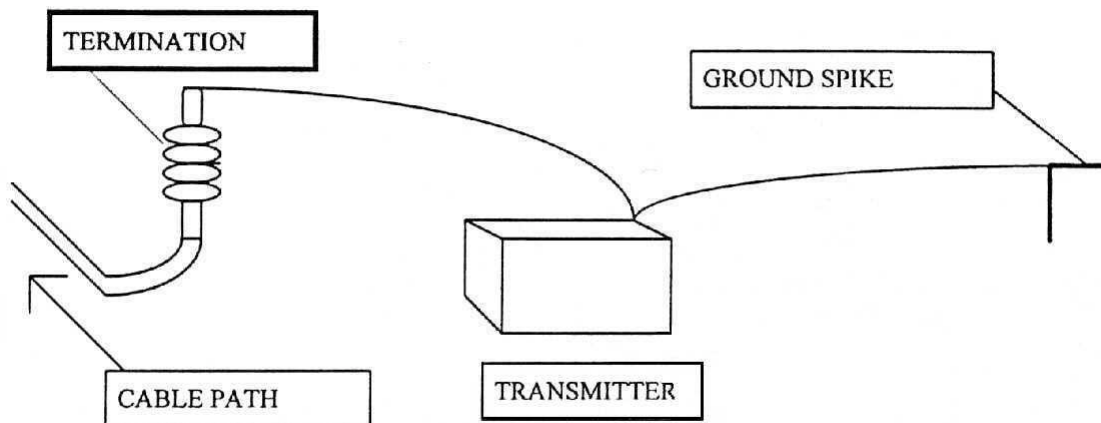

Figure 7, Direct (Conductive) Connect
- Extend the black lead of the direct connect cable as far as possible from the transmitter, maintaining a right angle orientation. At this point drive the ground spike into the ground as far as possible, and attach the black lead to it. Use the ground plate only when the ground is too hard to drive in the spike. Place the plate on the ground (at right angles to the conductor) and attach the black lead (Figure 7). To improve the conductivity of the plate pour water under the plate and/or a weight on top of it.